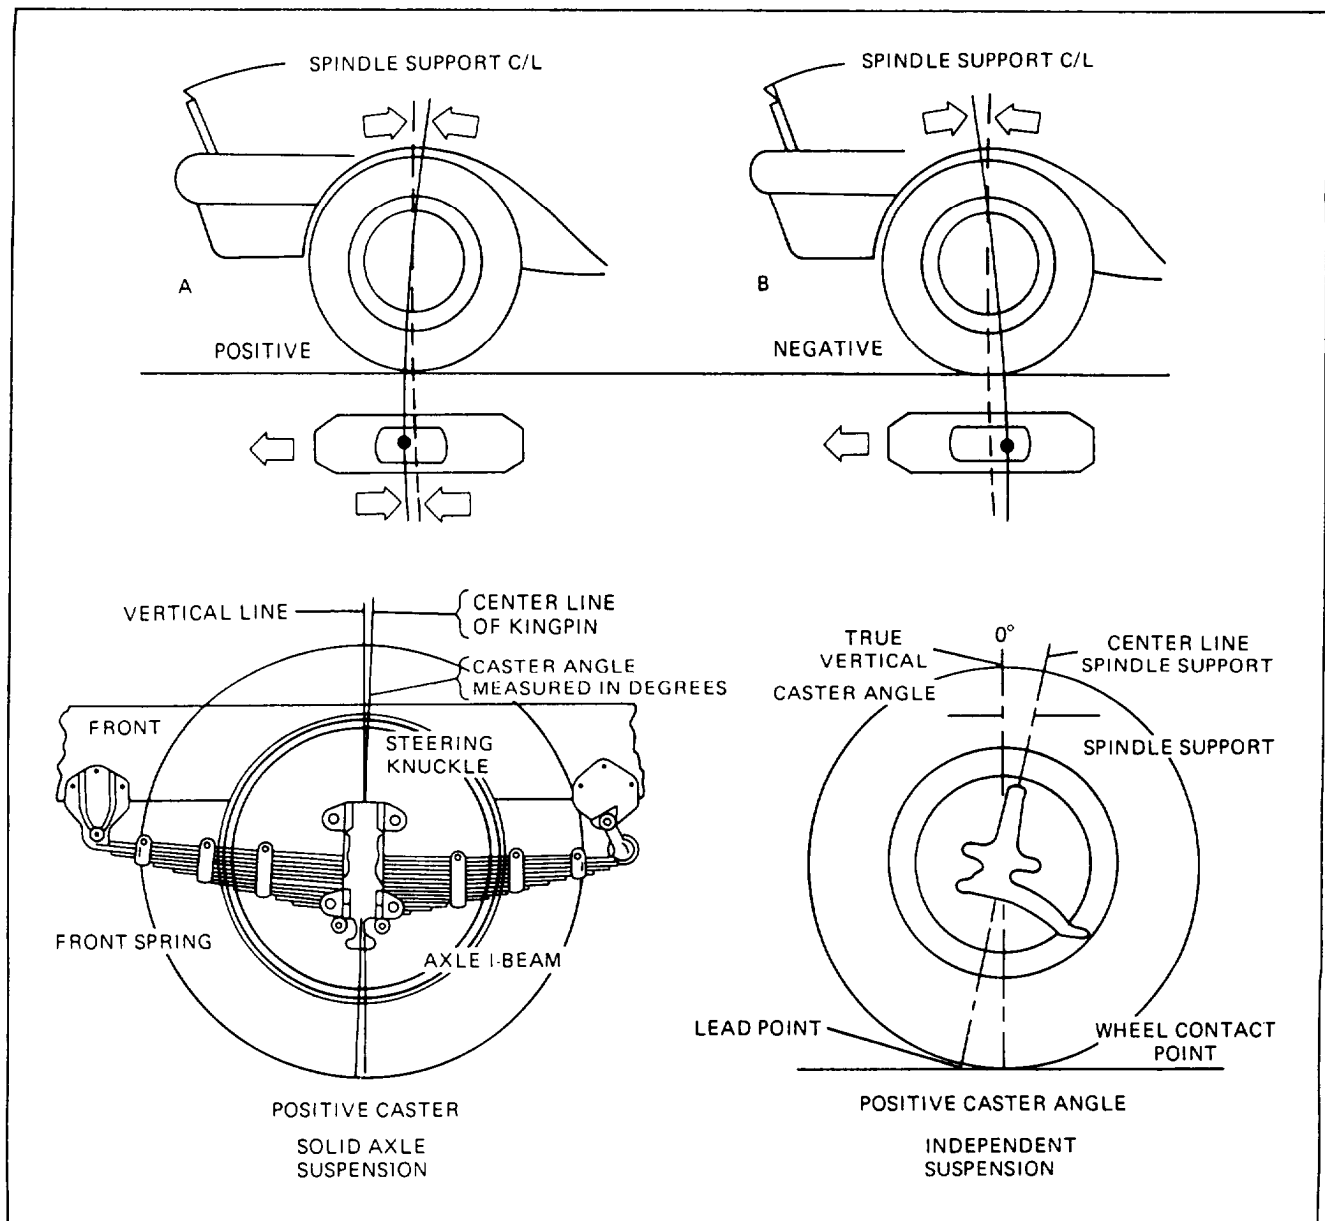

Figure 12-2.—Caster angle.
2. CASTER ANGLE. When viewed from the side of the wheel, the caster angle is the degree to which the kingpin or ball joint tilts forward or rearward in relation to the frame (fig. 12-2). Like the camber angle, the caster angle is also measured in degrees. It is shown by a line drawn straight up and down, as in figure 12-2, and then a second line drawn through the center of the kingpin or pivot points. The caster angle is the angle formed at the point where the two lines cross, as viewed from the side of the vehicle.